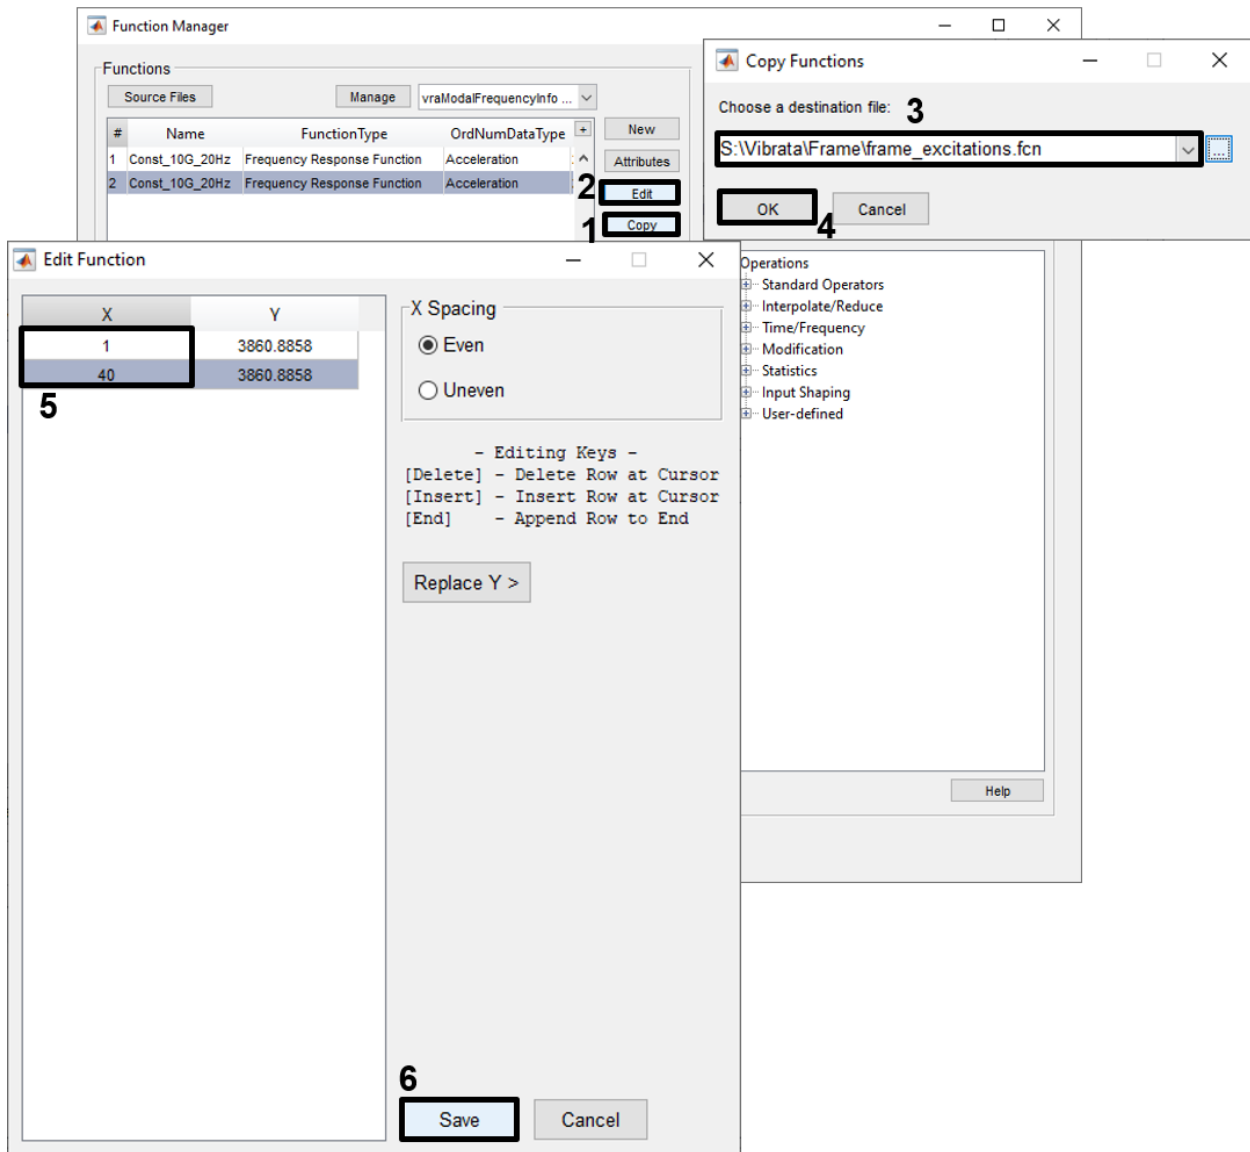

Figure 4-27. Change the copied function to have a range from 1 to 40 Hz.
- b. Select the original function and click **Copy**. Store the new function to a new function file in the *frame* folder; call it "frame\_excitations.fcn." Select the new function and click the **Edit** button. On the *Edit Function* dialog, change the second X-value from 30 to 40 and click **Save** (Figure 4-27).